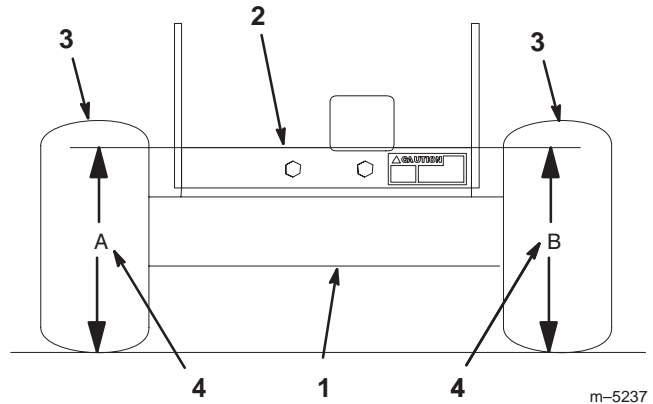

Figure 51
3. Measure engine deck height at location **A** (Fig. 51).
4. Measure engine deck height at location **B** (Fig. 51).